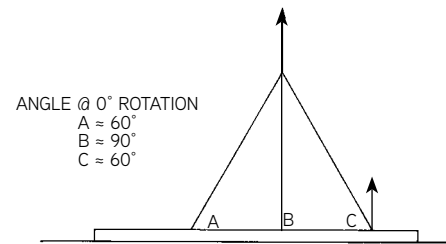
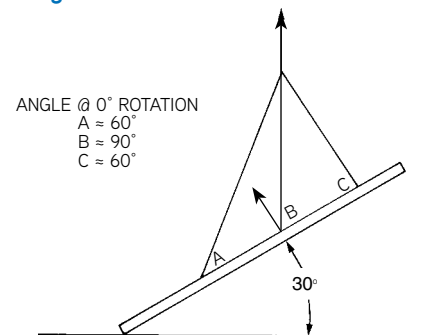

Fig. 3
Fig. 4
- For example: the tension load at "B" in Fig. 3 is 100% tension and the tension load at "C" is 85% tension, but when rotated to 30° in Fig. 4, the tension load at "B" has decreased to 80% and the tension load at "C" has increased to 100%.